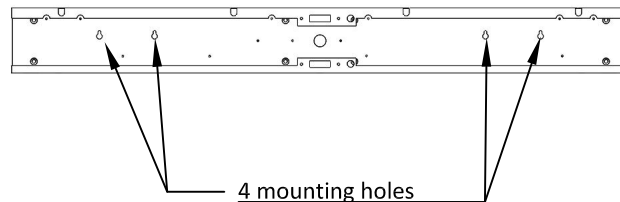
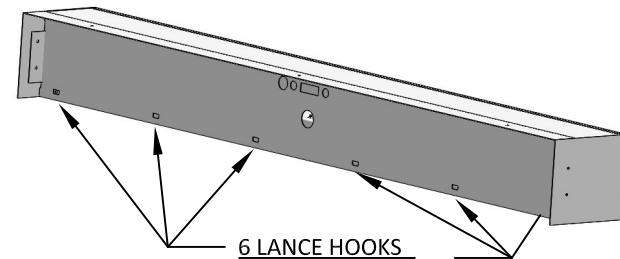

FIGURE 2
FIGURE 3
1. Hold the Wall Mounting Plate (shown in Figure 2) against the wall in the desired location marking ensuring the wiring access hole is positioned over the electrical box. Place a bubble level against the top edge and adjust positioning until level.
5. Lift the LED Assembly up to the mounting plate and locate the male & female orange Disconnect Plugs labeled (UP) and plug back together. Locate the male & female orange Disconnect Plugs labeled (DOWN) and plug back together. Connect the building AC power supply wires (and or customer install wall switch to the black (and or red) wire leads and the incoming neutral connected to the white wire lead. The building ground wire should be connected to the fixture ground wire with a wire nut.
6. Reverse step 3 of DISASSEMBLING THE FIXTURE to secure the LED assembly onto the Wall Mounting plate. Ensure 6 LANCE HOOKS (Figure 3) are hooked onto Wall Mounting plate. Once the LED assembly is in place, replace the 3 Philips head screws removed in step 2 of DISASSEMBLING THE FIXTURE to secure LED assembly to Wall Mounting plate.